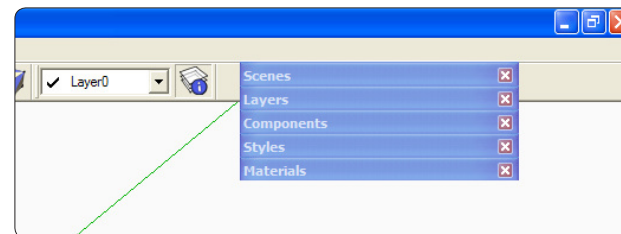

Figure 13. The dialog boxes minimized, clumped, and positioned where they won't interfere with the drawing.
3. Open another dialog box, minimize it, then move it by grabbing the top title bar to connect to the others. Do this for each box you want to display. This forms a clump of dialog boxes that can be moved around the screen to avoid interfering with the drawing space. Figure 13 shows the five dialog boxes minimized and clumped.